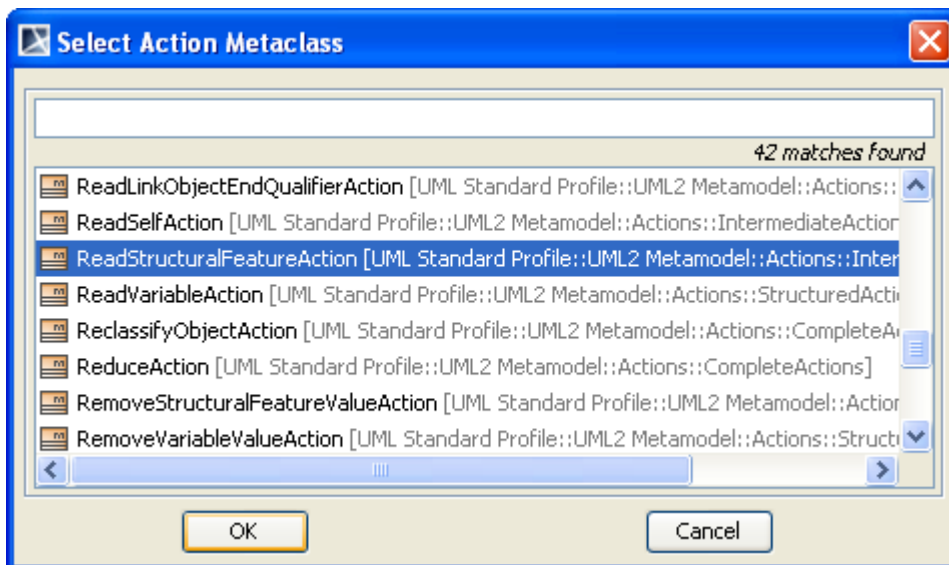

Figure 56 -- Selecting ReadStructuralFeatureAction in the Select Action Metaclass Dialog
5. Select **ReadStructuralFeatureAction** in the **Select Action Metaclass** dialog and click **OK** (Figure 56).